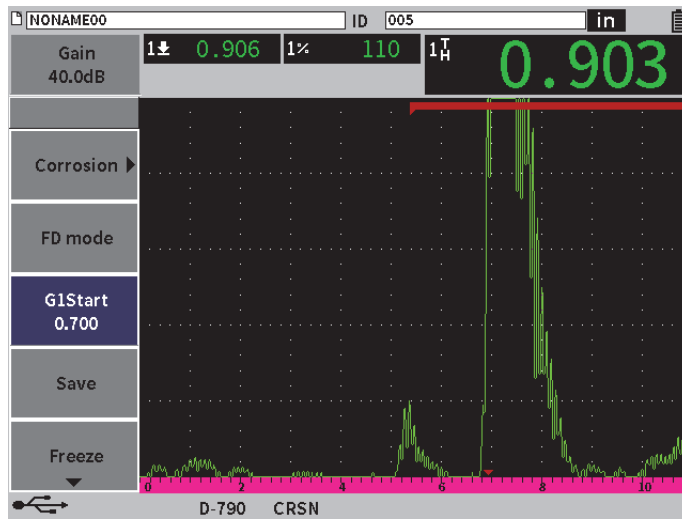

Figure 11-40 Correctly triggered measurement
- ◆ Select **G1Start** from the Sidebar menu and turn the adjustment knob to increase or decrease the gate 1 start position until the measurement is correctly triggered (see Figure 11-40 on page 221).